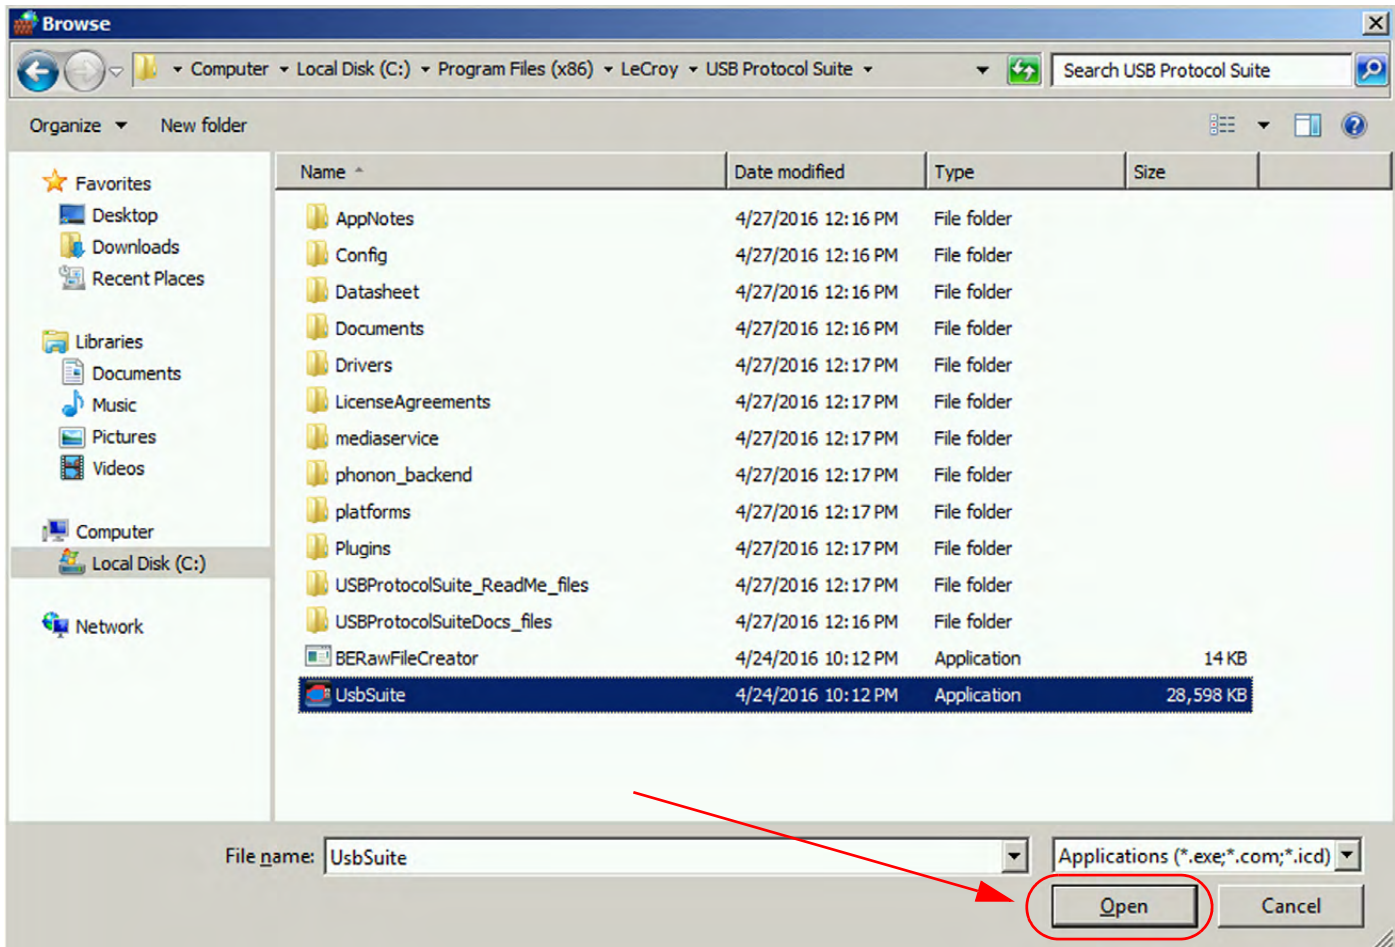

Figure 3.15: Windows 2008: Browse to Find Application -> USB Protocol Suite
6. Navigate to the location of the installation directory for the USB Protocol Suite you have installed. The Teledyne LeCroy USB Protocol Suite is typically installed on your machine in the C:\Program Files (x86)\LeCroy\USB Protocol Suite directory. See Figure 3.15.